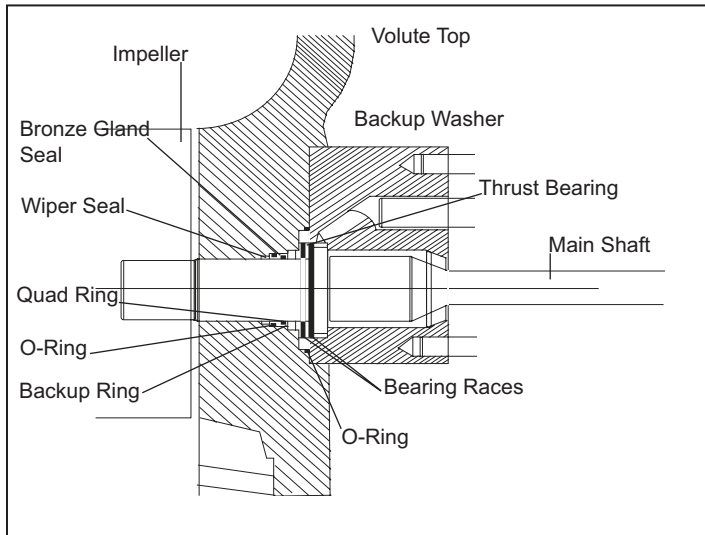

Figure 3. Bronze Gland Seal and associated parts. For serial number 1547 and up.
5. If oil leakage around the main shaft is evident, the bronze gland seal and associated parts must be replaced. These parts are shown in Figure 3 and are supplied in the seal kit.
1. If there has been leakage around the main shaft or if shaft damage is evident, install a new wiper seal, bronze gland seal, gland seal o-ring, quad ring and backup ring in the volute top as shown in Figure 3 before installing the motor. Lubricate the bronze gland seal, wiper seal and quad ring with waterproof grease before installation. Lubricate all other parts with clean hydraulic fluid.